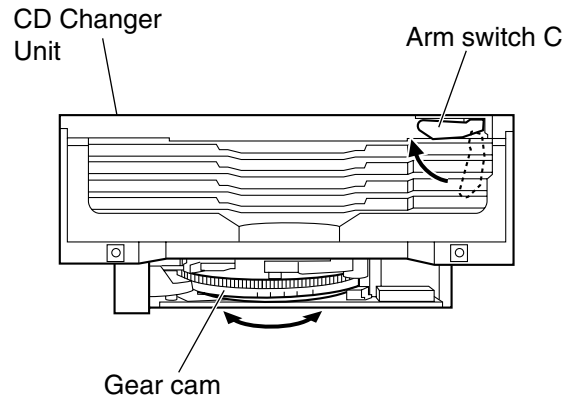

Figure 1
1. How to remove CD Disc manually (See Fig. 1,2)
1. Rotate the gear cam until the arm switch C becomes the position of the Figure 1.